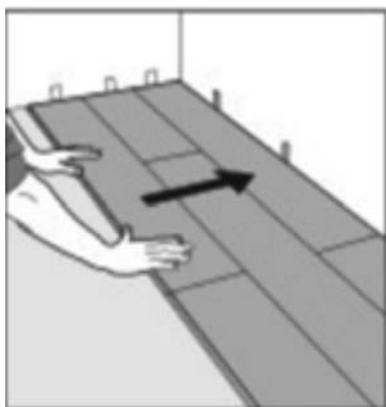

Figure: 5
5. Continue installing full planks in the second and subsequent rows until you reach the wall on your right. (See figure 5).